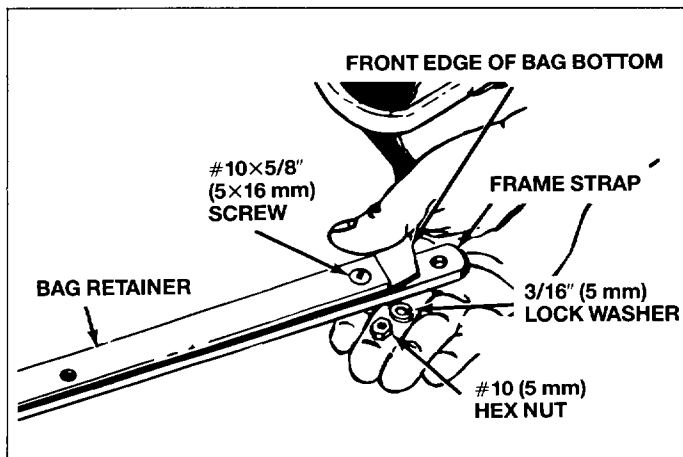

Fig. 18
- Assemble the bag frame strap (bottom) and bag retainer (top) to the front edge of bag bottom. Place the bag retainer on top and frame strap on bottom. Secure with six $\#10 \times 5/8"$ (5×16 mm) slotted screws, $3/16"$ (5 mm) lock washers and $\#10$ hex nuts (5 mm). See figure 18.